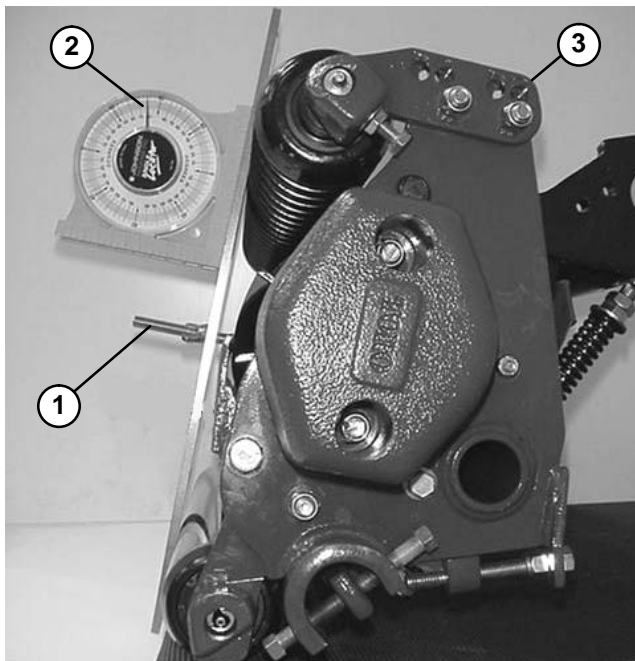

Figure 14
4. Place the gauge bar across the front and rear rollers. The height of cut screw head needs to fit snugly over the edge of the bedknife while the gauge bar contacts the rollers (Fig. 14).
5. Place an angle indicator on the gauge bar and record the gauge bar angle (Fig. 14).
7. For adjusting the cutting unit attitude, change the position of the roller (A, B or C) (Fig. 14).